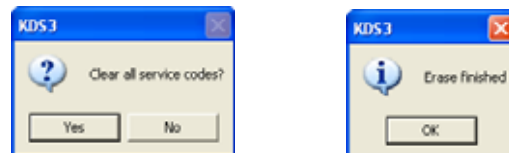

Fig. 7-12 Erase procedures
- o Select **Yes**, then select **OK** (Fig. 7-12).